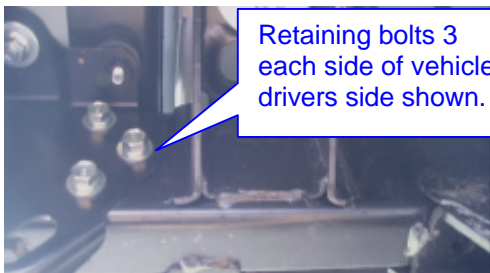

Fig 3
- a. Remove & discard 6 x M 10 retaining bolts that hold bumper irons the chassis rails see fig 3.